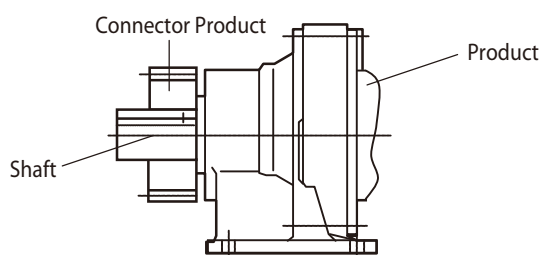

Fig. 5-3
- The working load point of the sprocket or gear should go from the center of the shaft to this product. (See figure 5-3)